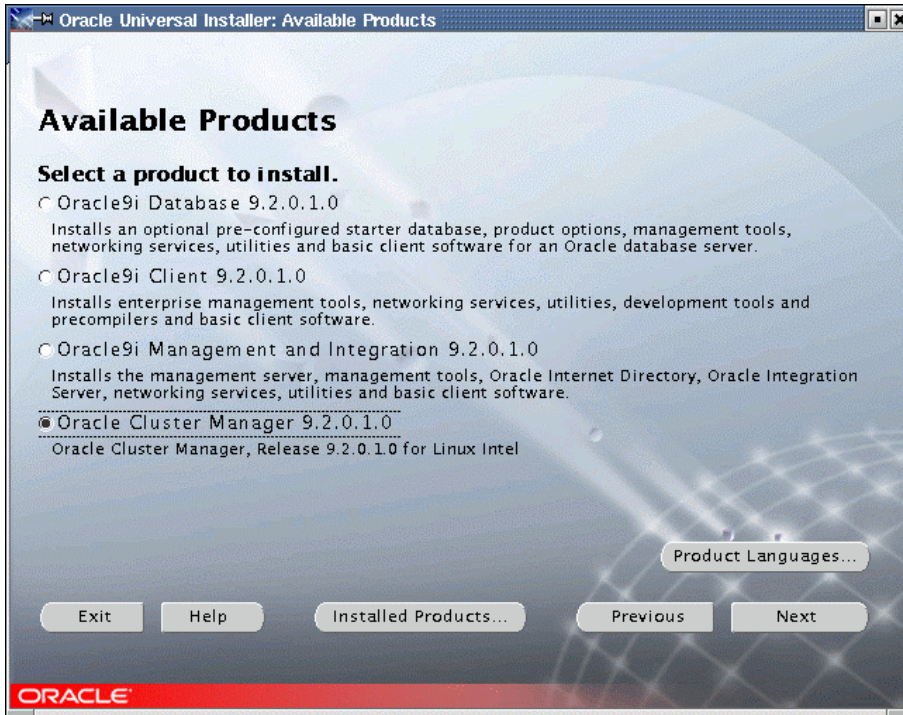

Figure 32. OUI Available Products
7. Select Oracle Cluster Manager 9.2.0.1.0 on the Available Products screen shown in Figure 32. Click **Next** to continue.